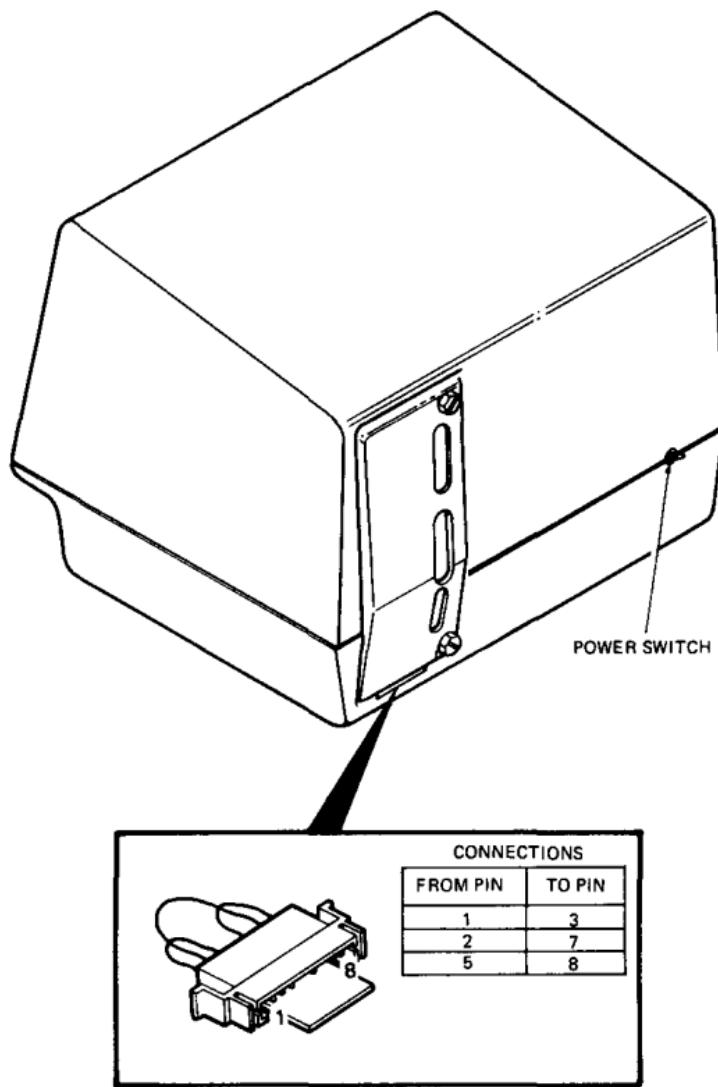

Figure 5-4 20 mA Loopback Connector
4. Connect the 20 mA loopback connector (PN 70-15503-00) to the Mate-N-Lok connector mounted on the bottom of the access cover (Figure 5-4).